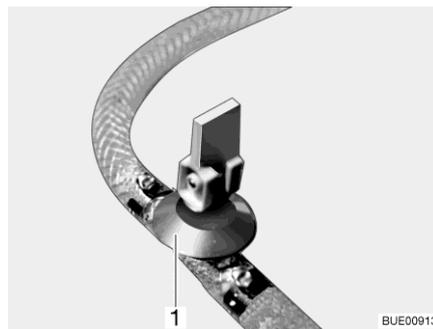

Fig. 241 Drain cock
- Close the drain cock(s). Position the rocking lever (Fig. 241,1) horizontally.
- Open drain cock(s) (Fig. 241). To do so, set the rocking lever (Fig. 241,1) in a vertical position. The boiler is drained to the outside.